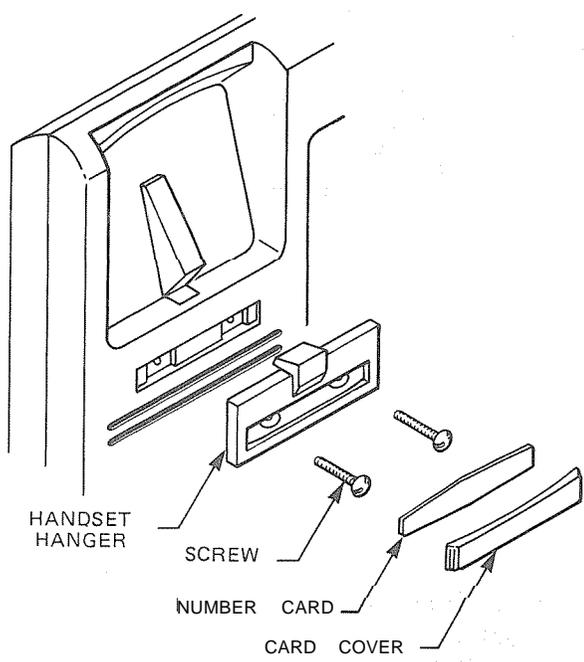

FIGURE 34—HANDSET HANGER KIT
09.21 Refer to Figure 34, the optional handset hanger kit (available from your Toshiba supplier) must be used whenever the EKT is wall-mounted.